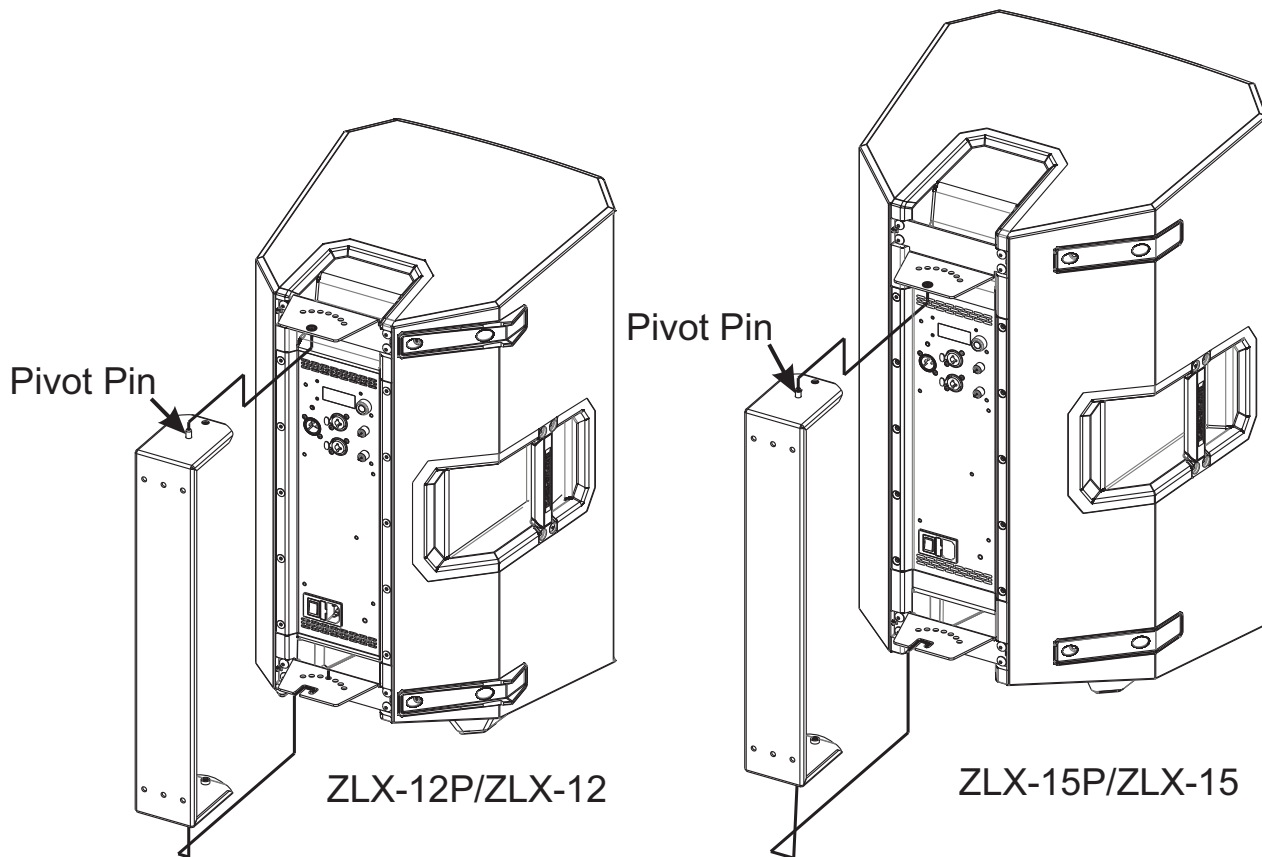

Figure 2.3: Guide onto U-bracket
3. Guide the **lower mount** and ensure the lower U-bracket pivot pin is securely placed in the notch. (See Figure 2.3.)